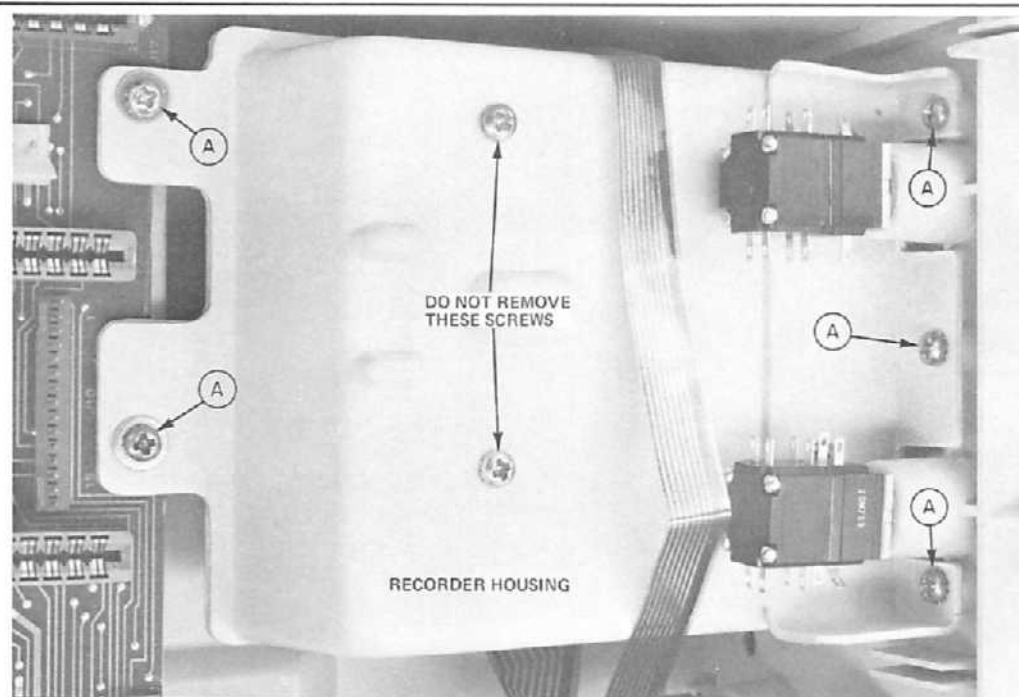

Figure 4-19. (Shown without wiring for clarity).
10. See Figure 4-19. Remove the five screws (A), that secure the recorder housing (two in back and 3 in front). DO NOT REMOVE THE TWO SCREWS NEAR THE CENTER OF THE HOUSING. Lift the recorder assembly from the instrument. Figure 4-19 is shown without wiring for clarity.